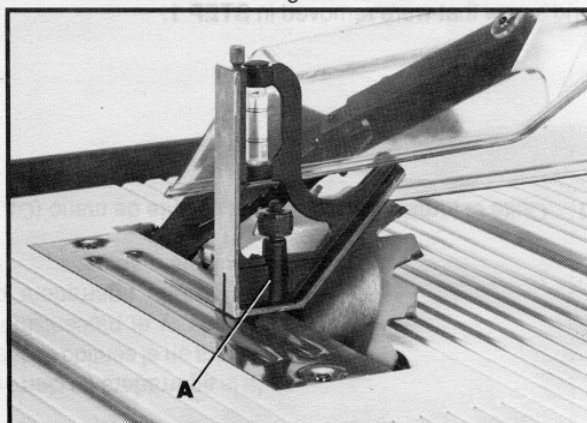

Fig. 34
6. Place a square (A) Fig. 34, on the table with one end of the square against the blade, as shown, and check to see if the blade is at 45 degrees to the table. Move the blade tilting mechanism further if necessary until the blade is at 45 degrees to the table and tighten the blade tilting lock handle.